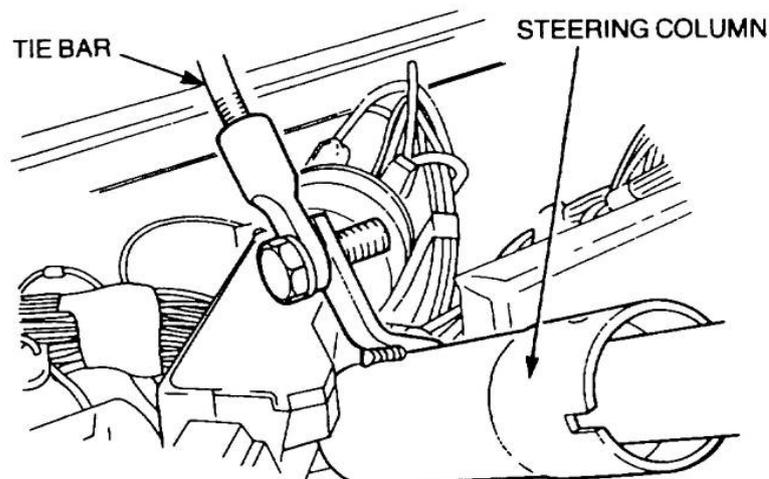

Figure 135 Disconnection of the Steering Column Tie Bar
- f. Remove the five screws securing the instrument panel to the fascia and move the panel away slightly. Remove the bolt securing the steering column tie bar (Figure 135).